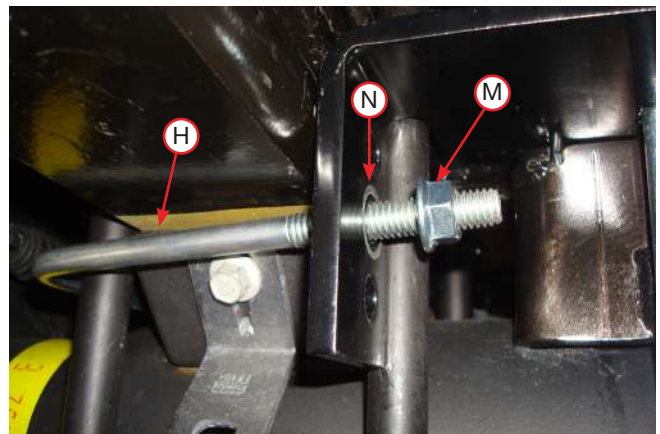

Fig. 17
- Install the U-bolts (H) around the stock U-bolt/leaf spring assembly and insert through the topmost holes in the lower bracket main plates (Fig. 17). Cap with the 3/8" serrated flange lock nut (Q). Snug bolts evenly, just enough to hold the lower bracket main plate flush against the stock U-bolts.